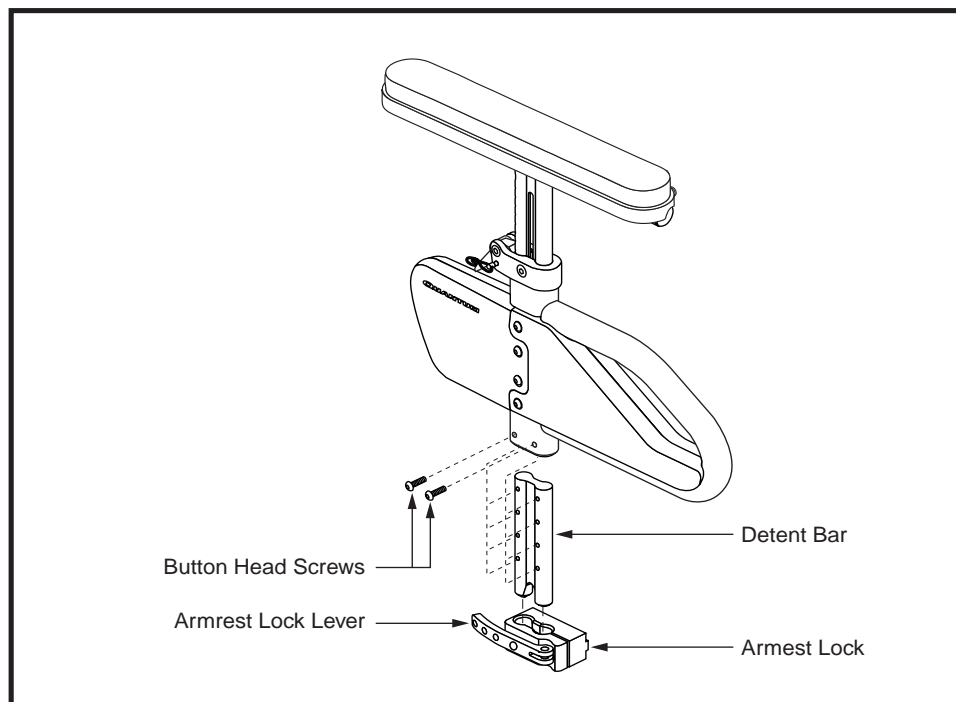

Figure 19. Single Post Quick Height Adjustable Armrest Bottom Height Adjustment
1. Remove the two button head screws from the detent bar. See figure 19.